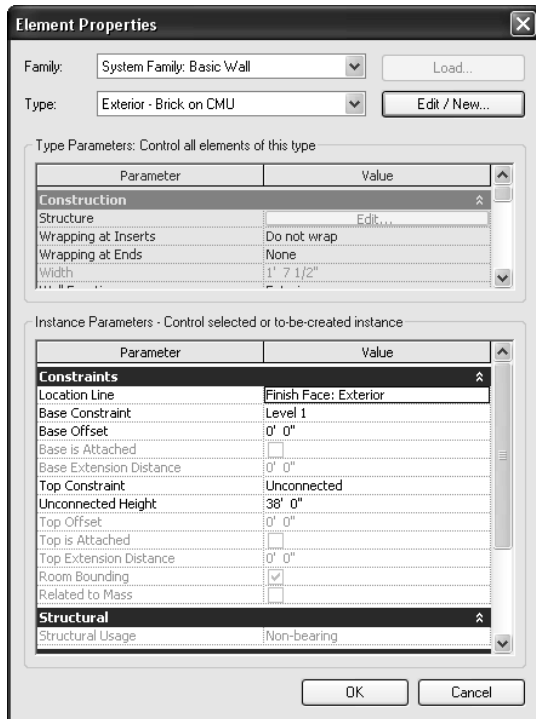

Figure 3-2.3 Element Properties
6. You are now in the *Element Properties* dialog box. Click the **Edit/New** button (Figure 3-2.3).